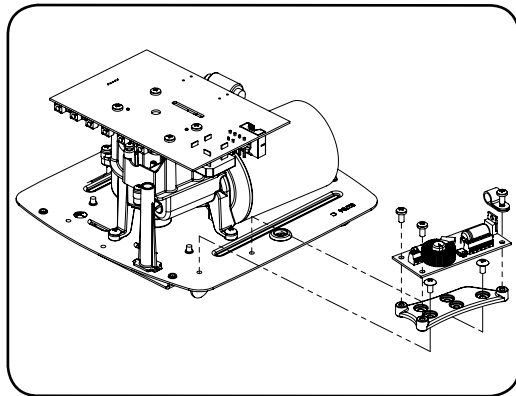

Fig. 41
- Mount the PCB support with two screws. Secure the SCG01-200 charger board on to PCB support with 3 screws. (Fig. 41).